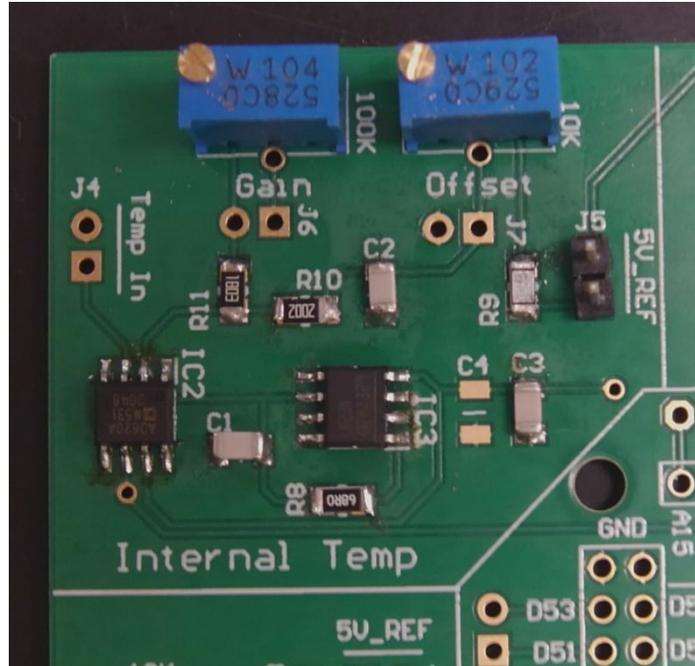

Figure 33: Initial Assembly of internal temperature circuit.
15. The initial assembly of the internal temperature circuit is now complete. Your board should look similar to the image shown in Figure 33